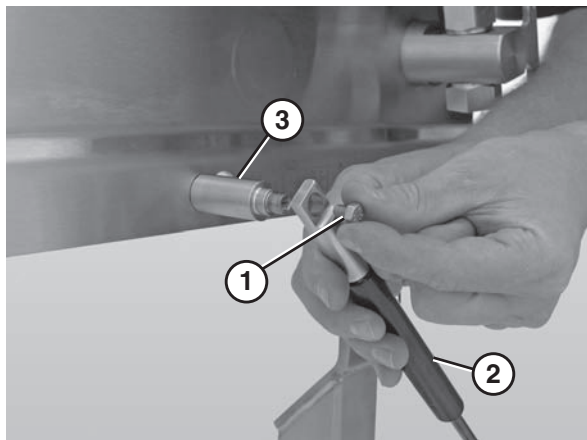

Figure 92
3. Remove the hex bolt (**Figure 92, item 1**) that connects the gas spring (**Figure 92, item 2**) to the gas spring standoff post (**Figure 92, item 3**).
4. Remove the inside hex bolt that connects the standoff post (**Figure 92, item 3**) to the frame.